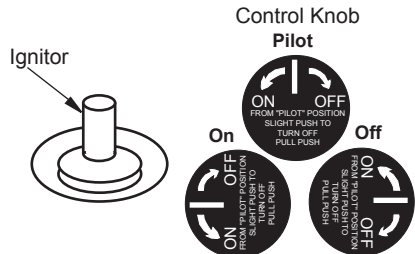

Figure 21 - Ignitor and Control Knob
4. Wait five (5) minutes to clear out any gas. Then smell for gas around log set and near floor. If you smell gas, STOP! Refer to the *National Fuel Gas Codes, ANSI Z233.1/NFPA 54, Air for Combustion and Ventilation*. If you don't smell gas, go to the next step.
5. Turn control knob counterclockwise to the PILOT position and press in (see Figure 21). Keep control knob pressed in for five (5) seconds.